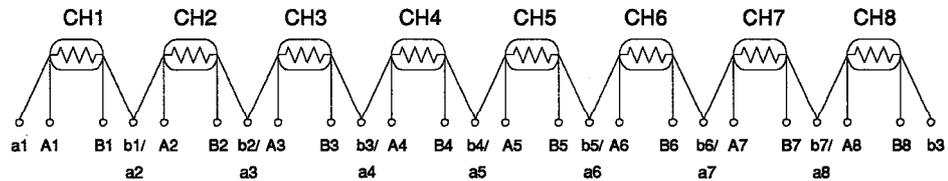

Figure 1
- (1) Connect terminals a1 and b8 of A68RD (see Figure 1 below).